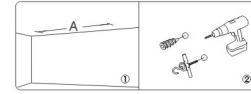

Figure12
1. To drill two same holes with an electric drill horizontally with wall, then fasten hangers(unprovided) onto the ceiling. (Figure 12)